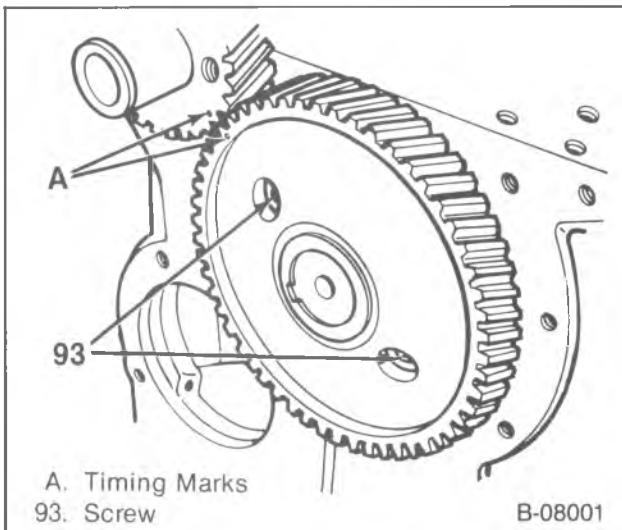

Figure 51—Timing Marks and Thrust Plate Screws
- Align the timing marks (figure 51).
2. Screws (93).